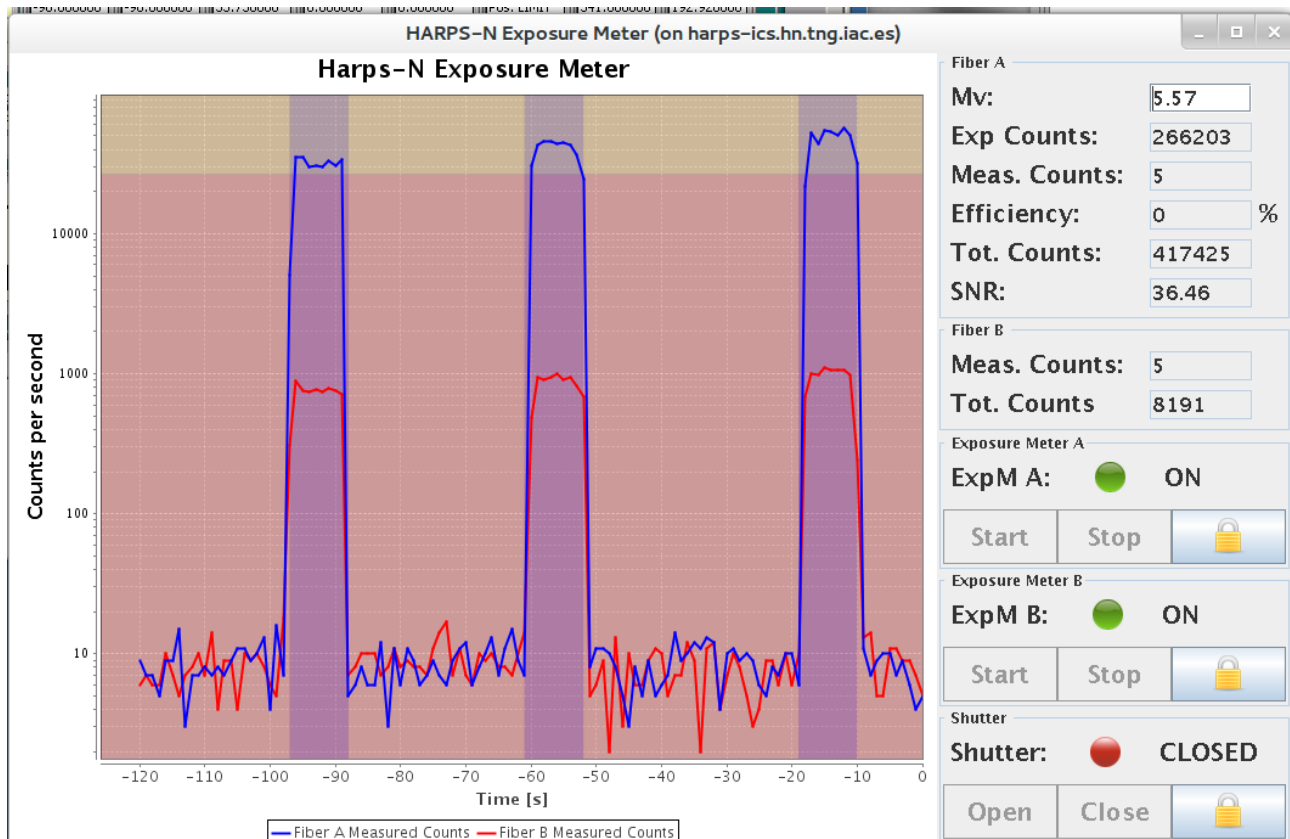

Figure 8- Exposure meter GUI
- Verify that the exposure meter is active, the shutter open and the signal as expected (Figure 8)